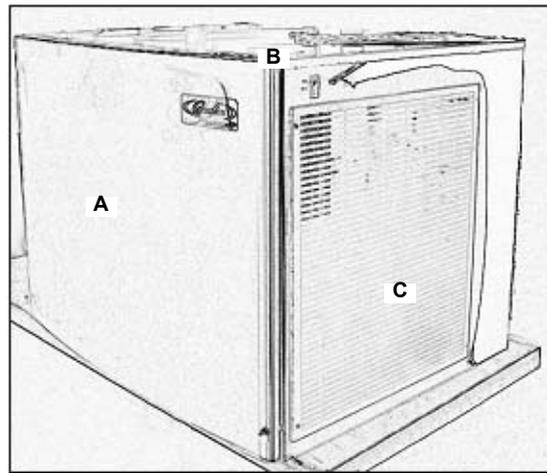

Figure 8.
2. Remove the front panel cover (A), top cover (B), and louvered side panel (C) (Figure 8).